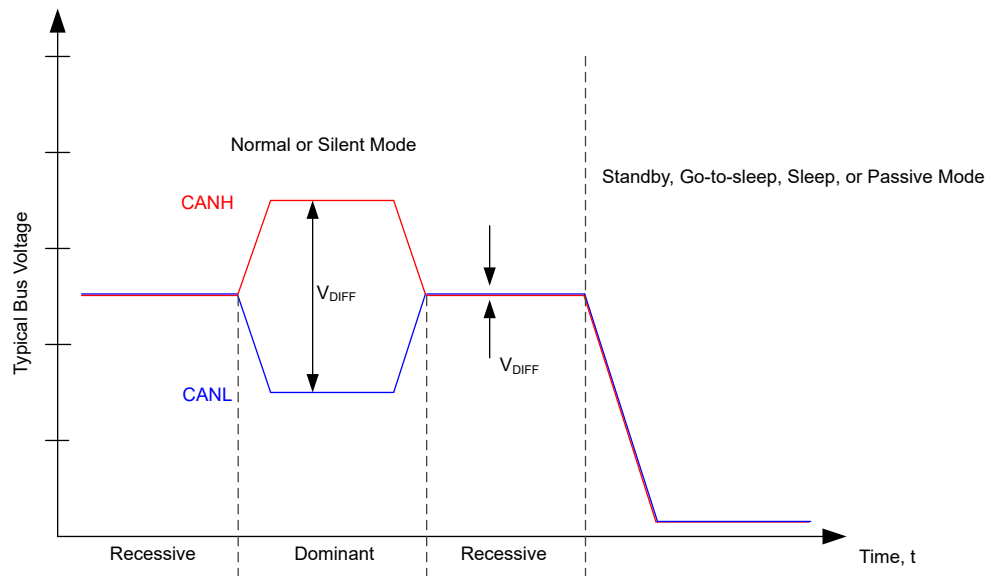

Figure 7-8. Bus States
(1) x = irrelevant
(2) For bus states and typical bus voltages see Figure 7-8
The CAN bus has two logical states during operation: recessive and dominant. See Figure 7-8.